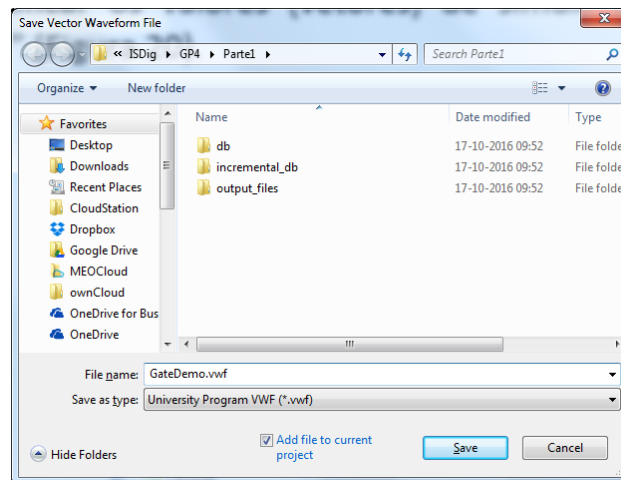

Figure 20 - Dialog for saving the file “GateDemo.vwf”.
13. After specifying the simulation values (vectors), save the file with the name “GateDemo.vwf” (Figure 20).